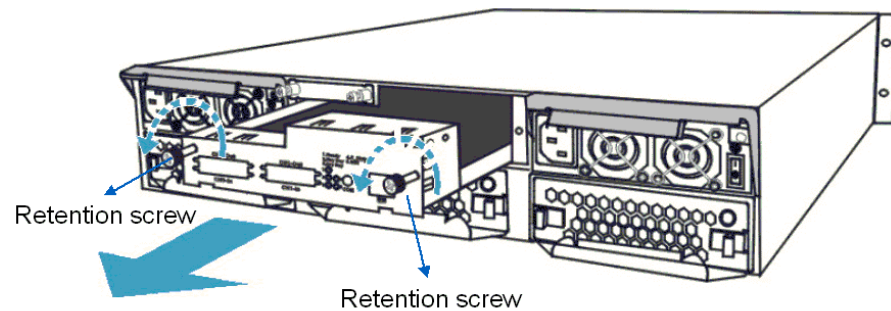

Figure 5- 1: Loosen Controller Module Retention Screws
Step 4. **Loosen the retention hand screws:** Hand screws are located on both sides of the RAID controller's faceplate. Press these screws and use a Phillips screwdriver to loosen them so that the controller can be removed from chassis. (See *Figure 5- 1*)